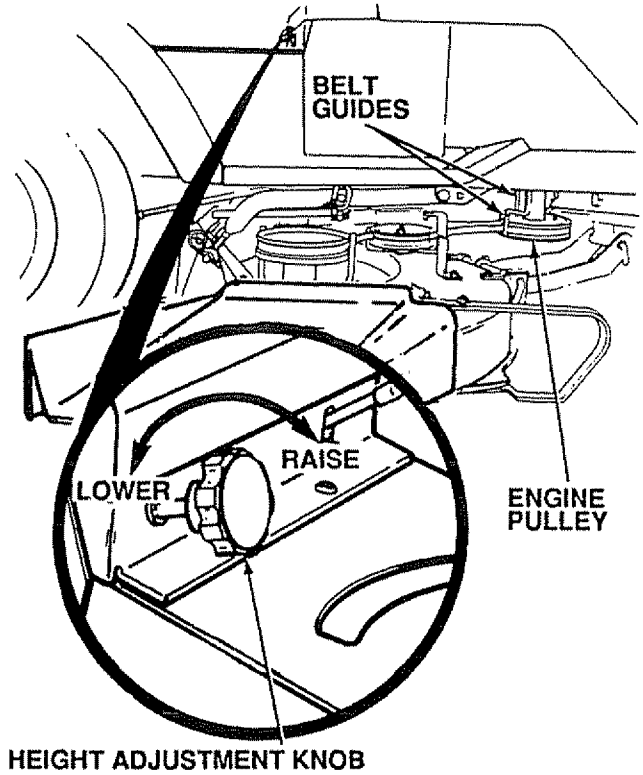

FIGURE 35
- Roll belt over engine pulley. Make sure belt is inside belt guides (Fig. 35). See belt drive schematic decal on mower housing.